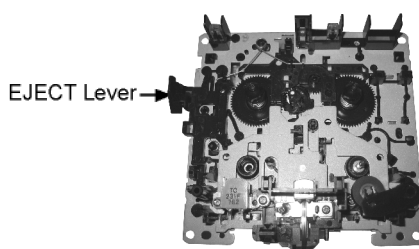

Fig. 2
1. Pull up the EJECT lever using a rubber band. (Fig. 2)